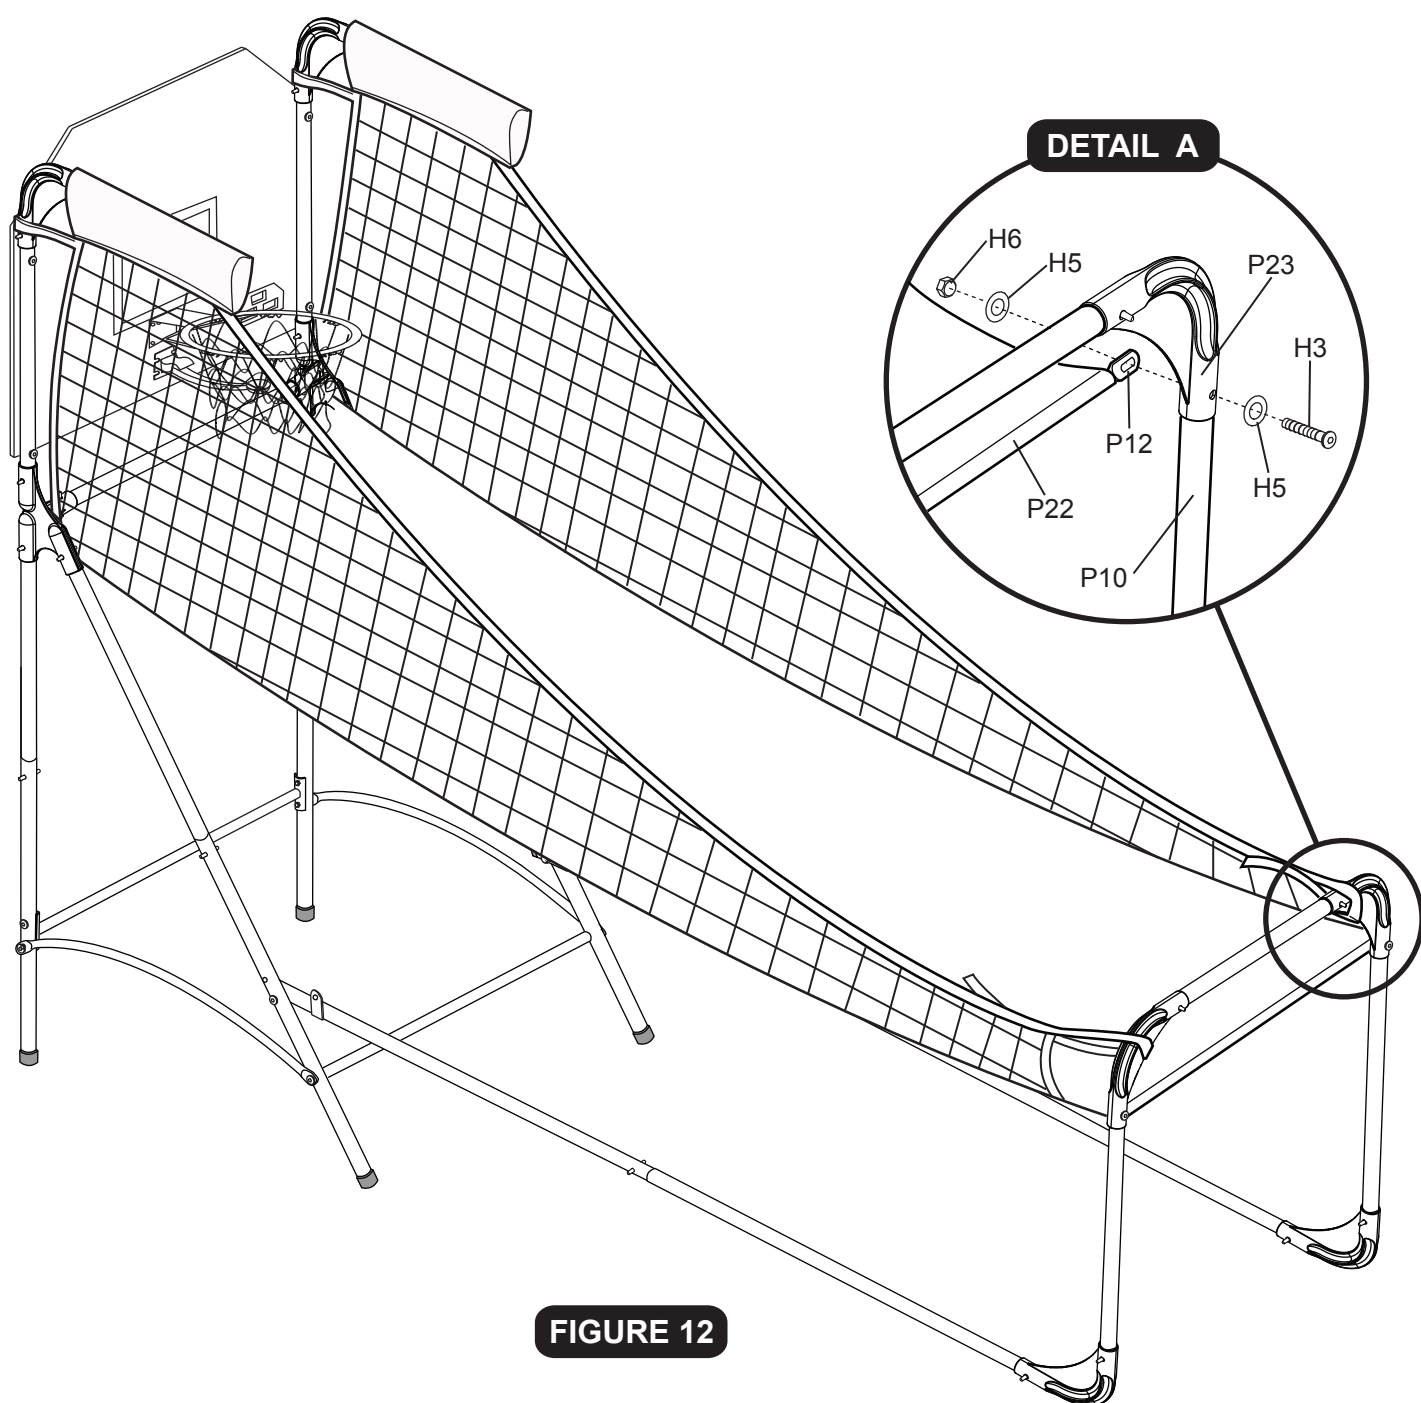

FIGURE 12
- 24.** Secure the Velcro Straps (front of the ramp net) around the **P23** L-Joint Plastic Part as shown in **FIGURE 12**.